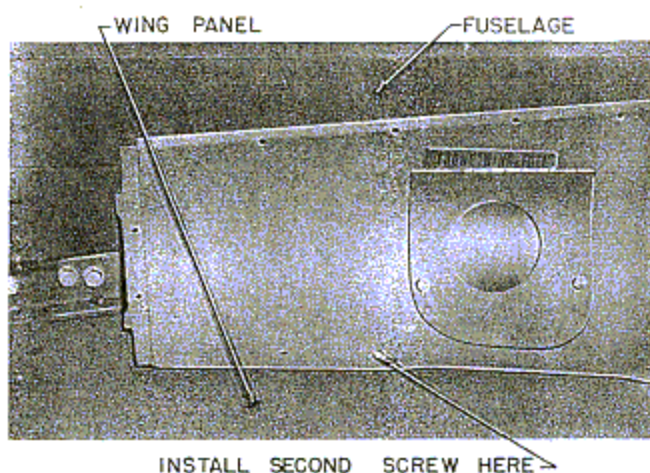

Figure 90—Installing Intermediate Wing Fillet—Step 2
3. Using ice picks, force the wing fillet into position so that the holes in the fillet line up with the nutplates in the wing panel and install the screw. (See figures 90, 91, and 92.)